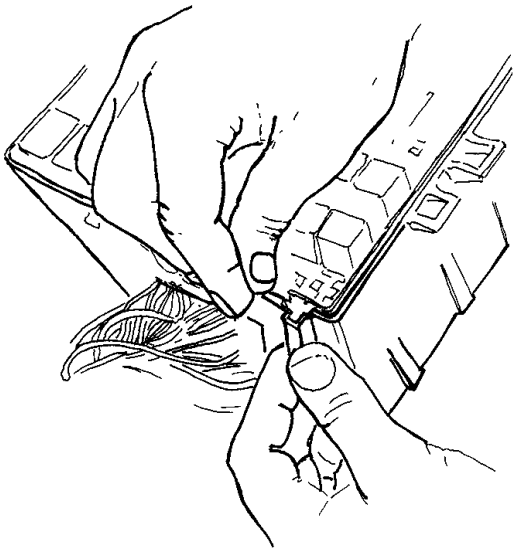

Figure 16 Install Door In Fuse Block Box
18. Re-install the P.D.C. fuse box door (Figure 16). Slide the door down the grooves it fits into while pressing in on the outside of the box.